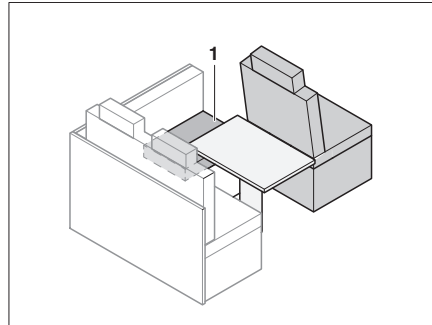

Fig. 181 Prior to conversion
- Lay the seat cushion (Fig. 181,1) to the side.